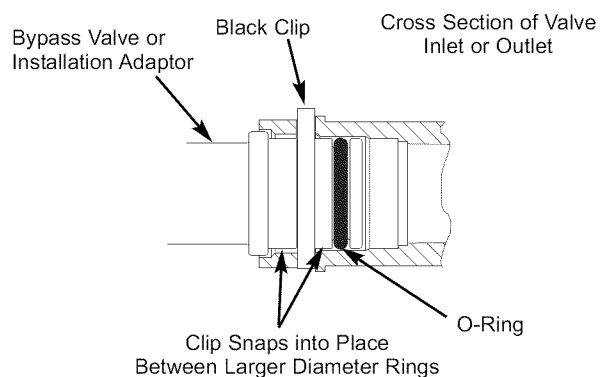

FIG. 11
7. Push the bypass valve into the softener valve as far as it will go. **Snap the two large holding clips into place, from the top down as shown. See Fig. 11.**
CAUTION: Be sure the clips snap firmly into place so the bypass valve will not pull out. See Fig. 11.
8. Put a light coating of silicone grease on the o-ring seals and slide into the threaded adaptors. Push the adaptors into the valve inlet and outlet ports, or bypass valve ports, as far as they will go. Both adaptors are the same and fit either port. **Snap the two large holding clips into place, as shown. See Fig. 11.**
CAUTION: Be sure the clips snap firmly into place so the tubes will not pull out. See Fig. 11.